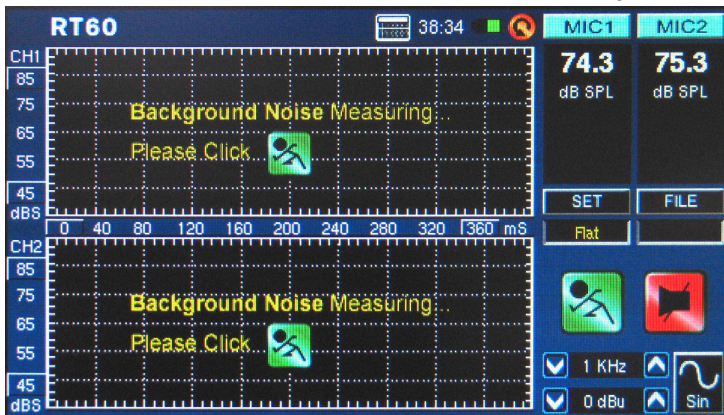

figure 37
2. Select "RUN/STOP" to allow the PAA6 time to calculate the background noise (figure 37).